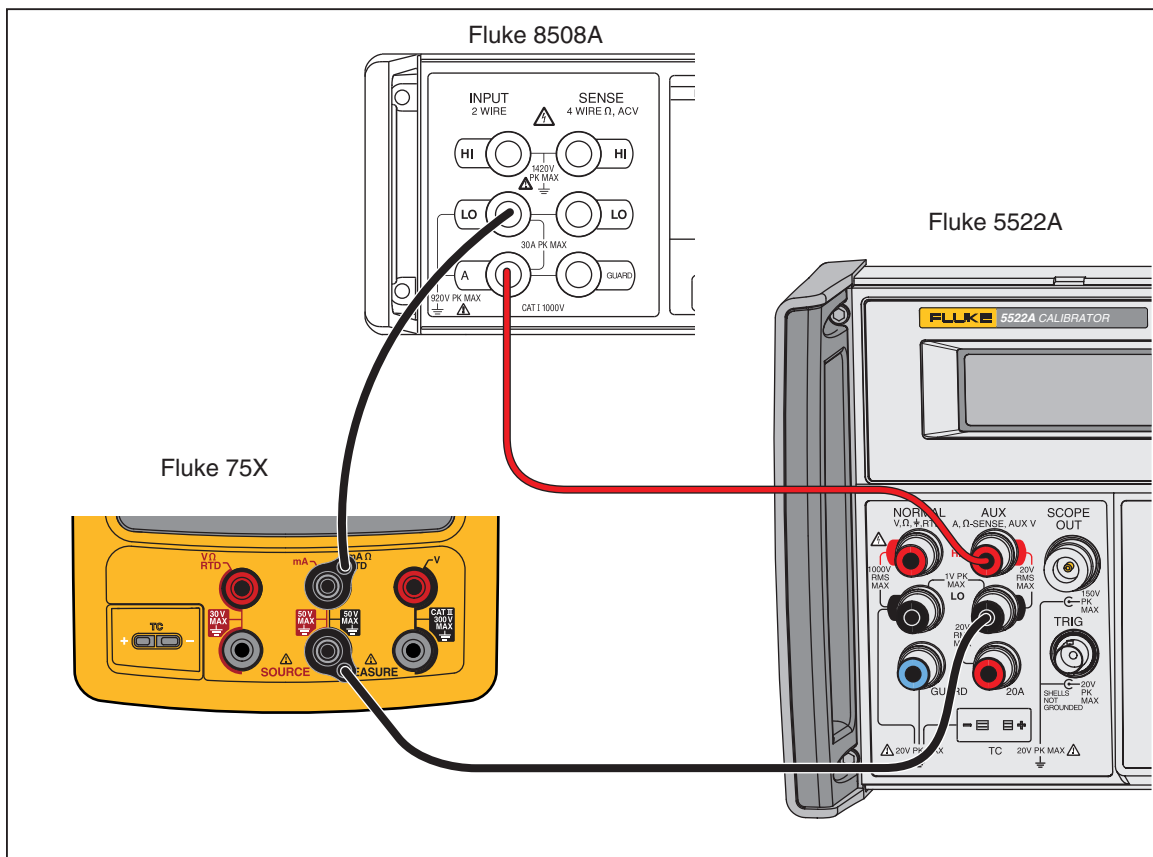

Figure 2. DC Current Measurement Verification Connections
1. Connect the UUT to the 5522A and the 8508A as shown in Figure 2.